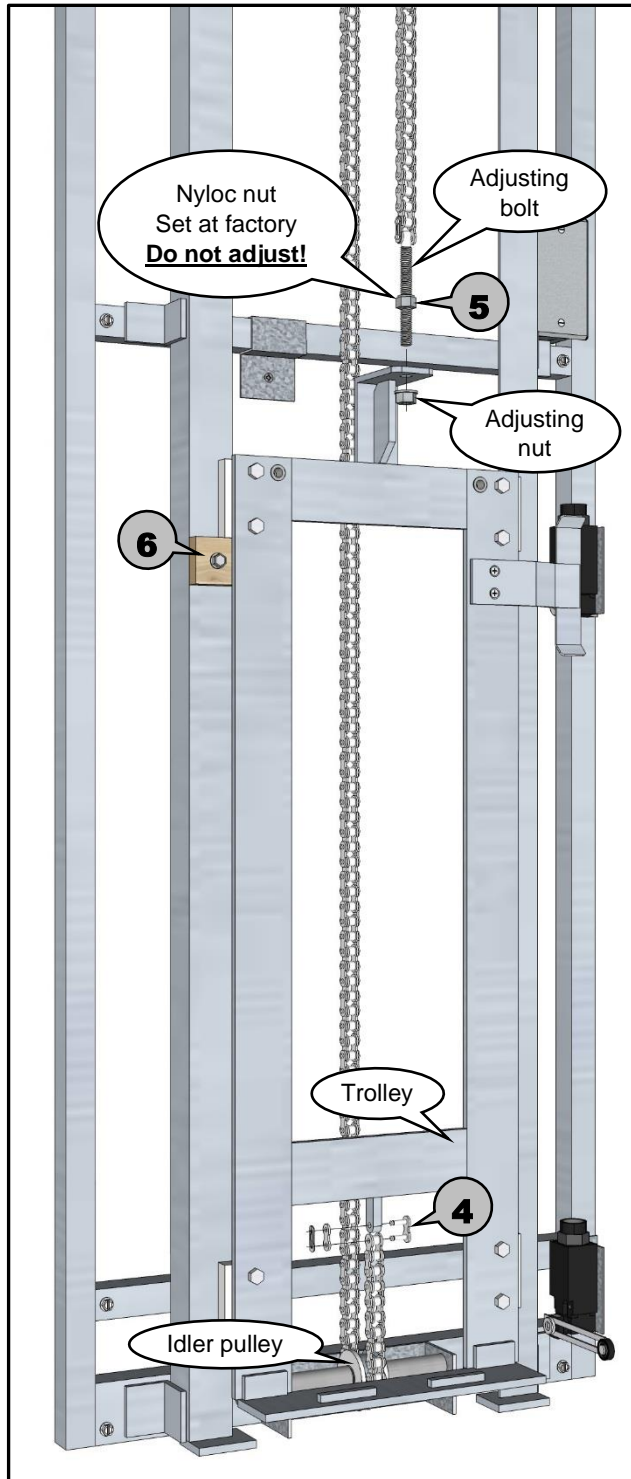

Figure 9
- 4** One end of the chain should hang down behind the trolley and be placed around the idler pulley. Then use provided master link, attached near the bottom of the trolley with a plastic tie, to connect chain to bottom end of trolley. (see Figure 9)
- 5** The other end of the chain with the adjusting bolt should hang down near the top of the trolley. Insert the threaded adjusting bolt, on the end of the chain, into the hole on the top of the trolley where the adjusting nut is tied on, and use the adjusting nut to secure the adjusting bolt to the trolley. Use a blade screwdriver or needle nose pliers to hold chain from twisting and tighten adjusting nut until Nyloc nut is tightly seated against trolley. **Do not adjust Nyloc!** (see Figure 9)
- 6** Some machines will have a trolley stop screwed to the track for shipping purposes, and it should be removed at this time. (see Figure 9)